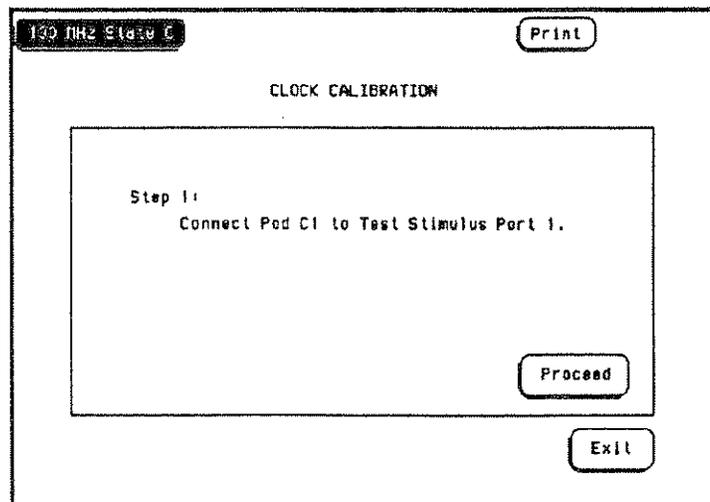

Figure B-8. Master Clocking Calibration Step 1
4. Figure B-8 shows step 1 in the calibration. Follow the instructions on the screen to connect the pod from the master card through a termination adapter to test stimulus port 1. The test stimulus ports are labeled on the rear panel of the HP 16540A master card. Touch Proceed. An asterisk will flash in the upper, right corner of the screen while calibration is in progress.